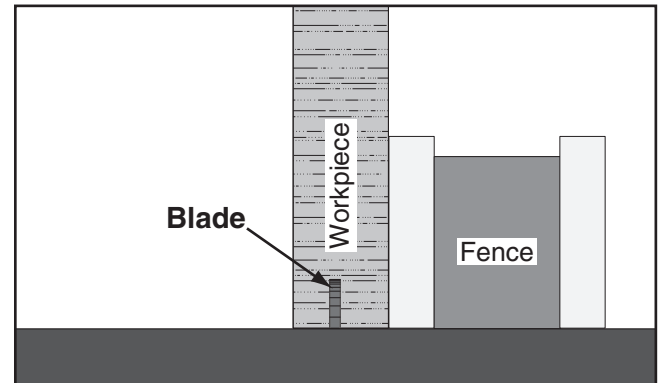

Figure 76. Rabbet cutting with a standard blade.
4. Adjust the fence so the blade is aligned with the inside of your rabbet channel as shown in **Figure 76**.